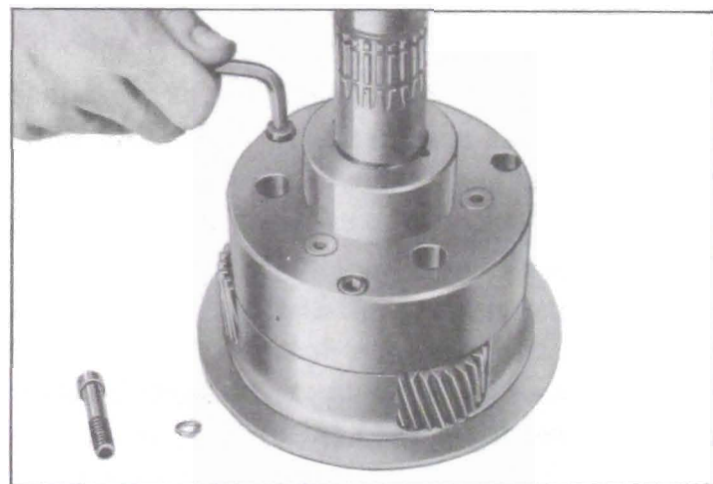

Figure 5-82—Removing Planet Carrier Screws
1. Remove three planet carrier screws and special lockwashers, using a  $\frac{1}{32}$ " hexagon (Allen) wrench. See figure 5-82. A used universal joint front yoke may be placed on output shaft and held with a bar while loosening the screws.